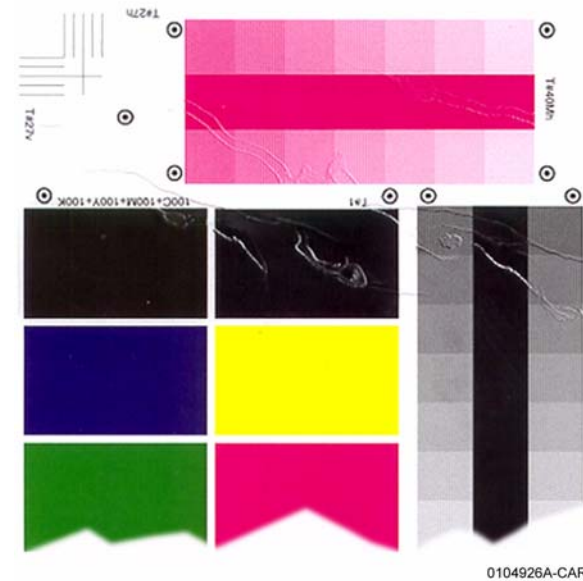

Figure 1 Wrinkled Image Defect Sample
1. Check customer print to verify distinctive worm track patterns in the images in Figure 1.